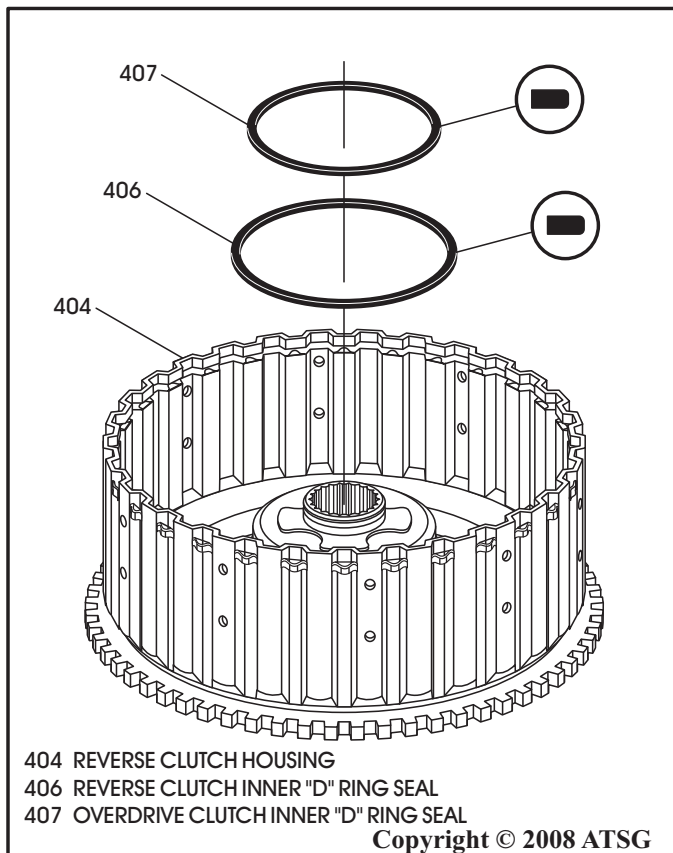

Figure 88
4. Install new inner piston seals in the grooves in reverse clutch housing, as shown in Figure 88.